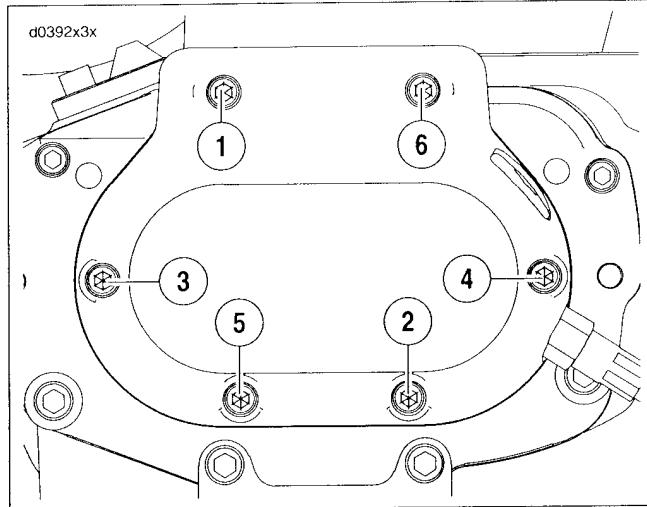

Figure 7-17. Cover Screws
2. See Figure 7-17. Remove the six screws that hold the clutch release cover in place. Remove the clutch release cover and discard the gasket.
5. See Figure 7-17. Install new gasket and replace clutch release cover. Tighten all six screws to 84-108 in-lbs (9.5-12.2 Nm).